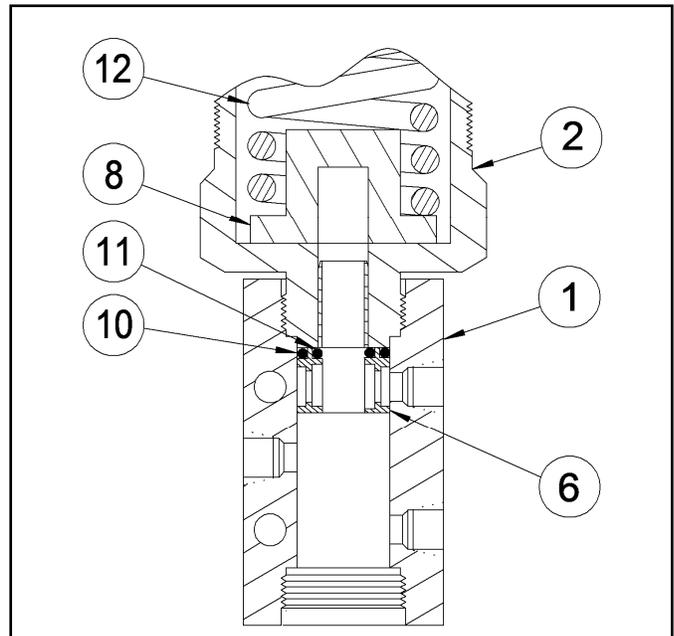

Figure 3: Installing Spring Retainer
7. Install the spring retainer (item 2), adjusting cap (item 3) and locknut (item 4), as a unit. As you thread the spring retainer in, it will push the o-ring and sleeve into the bore to the correct position. Tighten spring retainer hand tight. (See Figure 3)